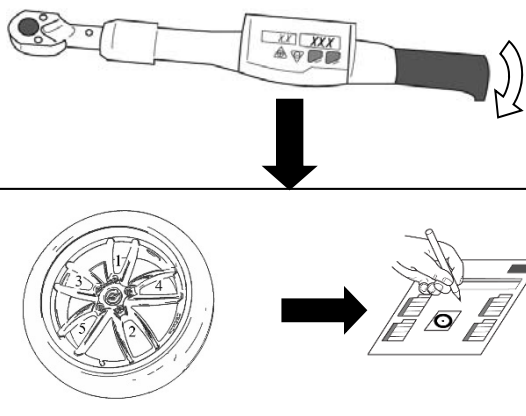

Fig. 8-3
- (d) With the vehicle still on the lift, use a digital torque wrench to measure the torque of each lug nut/lock and record it on the Torque Audit Sheet (Fig. 8-3) (PPO installation only, does not apply to DIO installation).